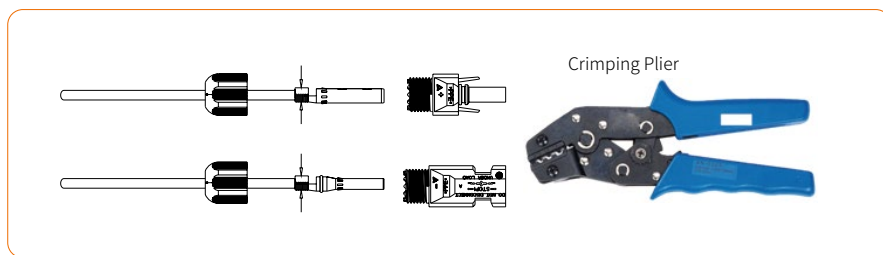

Figure 4-12
- ④ Insert the DC cable through the DC connector nut into the metal terminal and press the terminal with a professional crimping plier (pull back the cable with some power to check if the terminal is well connected to the cable), as shown in Figure 4-12: